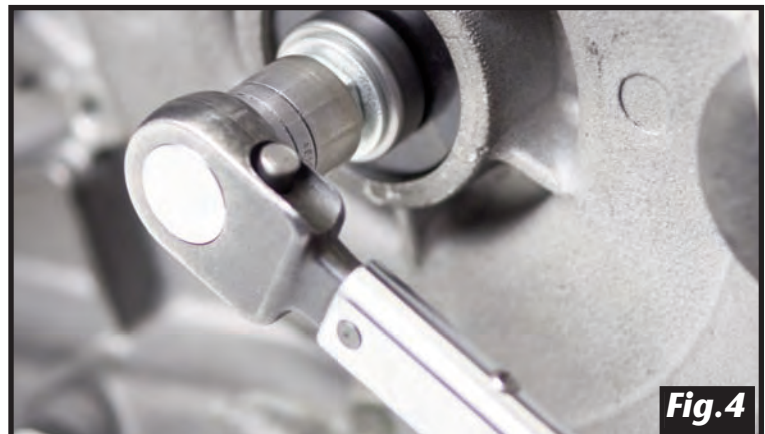

Fig.4
9. Position this assembly from the pulley side of the primary housing (same side the seal has been removed from) above seal bore. Next, for early models, place No. **967-3** with step inside bearing stopping at the retaining ring followed by flat washer and nut. **See Fig. 4.** On late models, use tool No. **967-4** with step set into clutch side of bearing bore hole, followed by flat washer and nut.